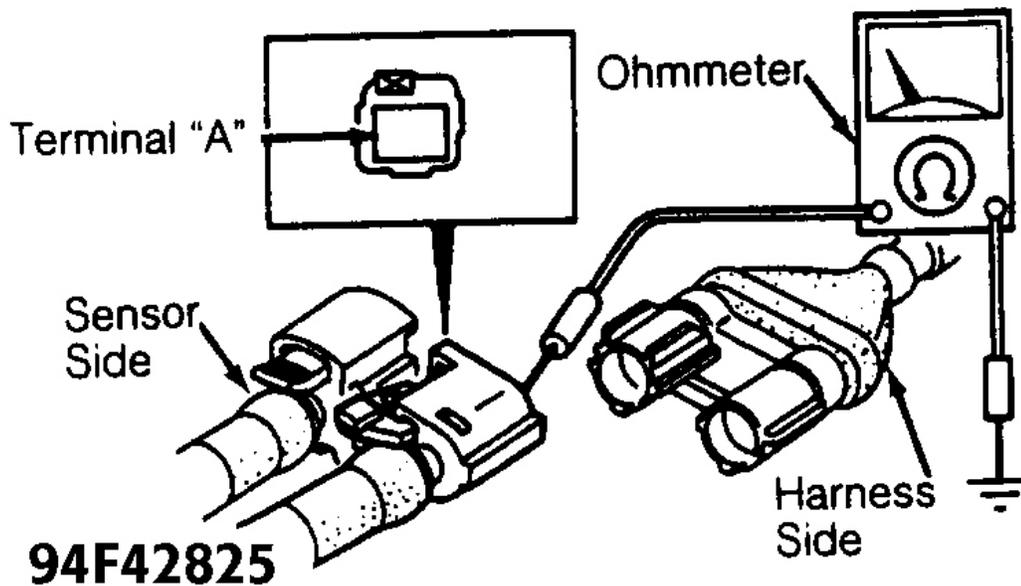

Fig. 8: Identifying D-Sensor Terminal "A"
9. Using a DVOM, check resistance between suspect D-sensor connector (sensor side) terminal "A" and ground. See **Fig. 8** . If resistance is 1.18 k-ohms, replace wiring harness. Perform **TESTING - SYSTEM OPERATION CHECK** . If resistance is not 1.18 k-ohms, replace suspect D-sensor. Perform **TESTING - SYSTEM OPERATION CHECK** .
2. Using a DVOM, check resistance between suspect D-sensor connector (sensor side) terminal "A" and ground. See **Fig. 8** . If resistance is 1.18 k-ohms, replace wiring harness. Perform **TESTING - SYSTEM OPERATION CHECK** . If resistance is not 1.18 k-ohms, replace suspect D-sensor. Perform **TESTING - SYSTEM OPERATION CHECK** .